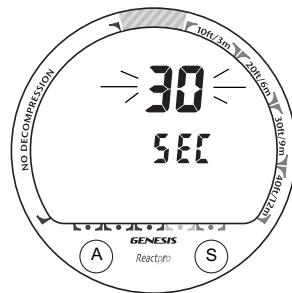

Fig. 27 - Set Sampling Rate
- While viewing the Set 2 screen, press/release the A (left) button 9 times (< 2 sec each time), the Set Sampling Rate screen appears with the Set Point flashing (Fig. 27).